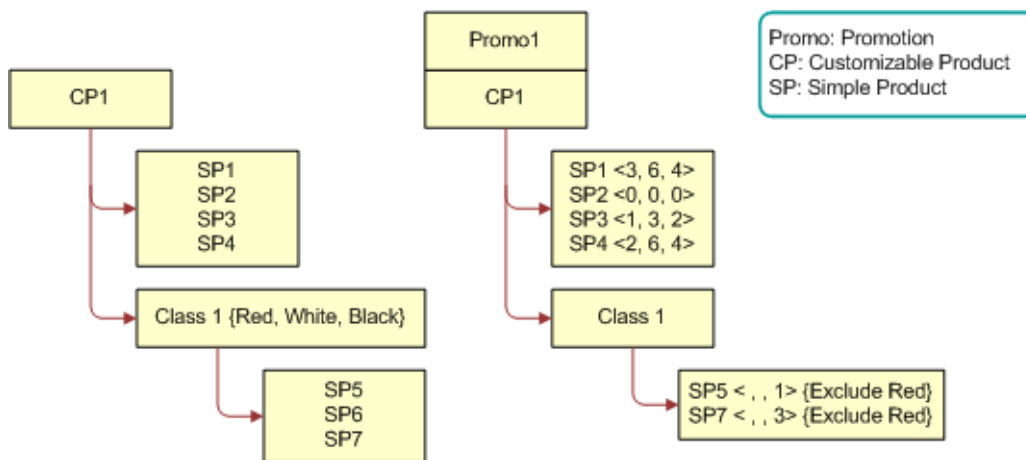

Figure 9. Product Structure for CP1 and Promo 1
- 1 A customizable product called CP1 is defined and a promotion called Promo1 is defined as shown in Figure 9.
Figure 9 shows a product called CP1 with the following structure: CP1 has four simple product relationships defined (SP1, SP2, SP3, SP4) and a Product Class called Class 1. A further three simple product relationships (SP5, SP6, SP7) are defined and associated with Class 1. Class 1 is associated with an attribute that has the values {Red, White, Black}.
Figure 9 shows a promotion called Promo1, where CP1 has the following structure: CP1 has four simple product relationships defined (SP1, SP2, SP3, SP4) and a Product Class called Class 1. A
- 1 Create the product structure for CP1 and Promo1 as shown Figure 9.